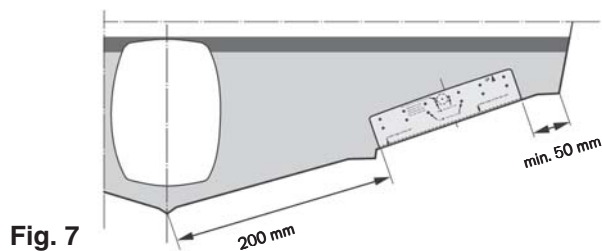

Fig. 7
The interceptor units (C) **fig. 1 and 4** shall be installed on the transom close to the boat bottom. The exact positioning is set by the template, included in the delivery (for detailed instructions, see below). The further outboard the interceptor units are mounted, the greater the lateral (side-to-side) control. Position the interceptor min. 50 mm from the chine and run towards the centerline of the boat. Boats with Outboard Motors, Inboard/Outboard (I/Os) or Water Jet installation, must maintain a minimum of 200 mm from the centerline of the actual drive unit to the closest edge of the interceptor units. **See fig. 7.**